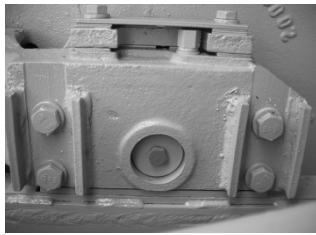

FIGURA 5-20
2. LIMPE O RESPIRO (VER A FIGURA 5-20).